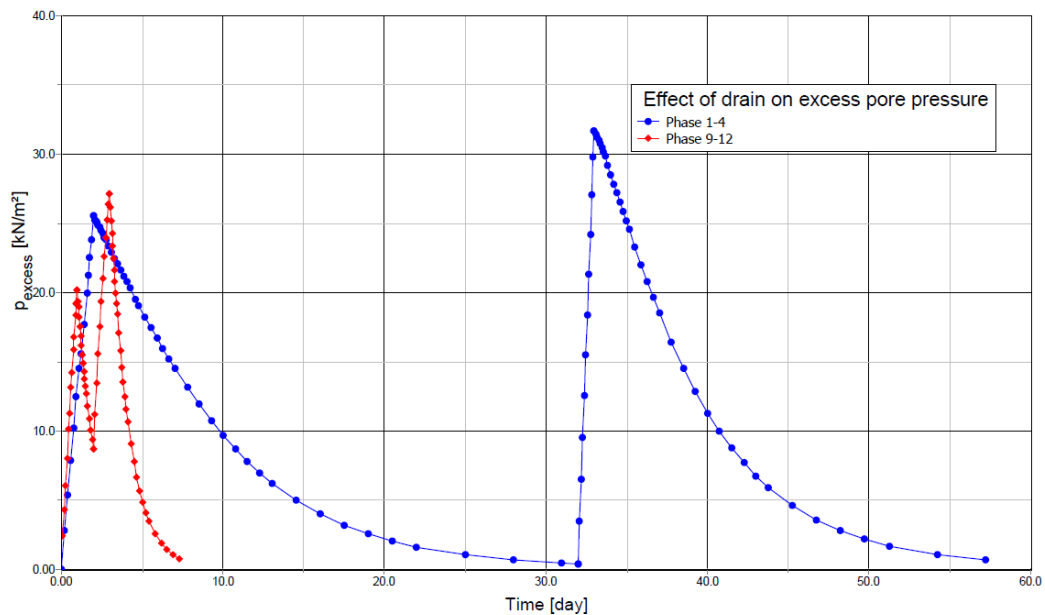

Figure 6-18: Effect of drains
- Click **OK** to close the **Settings** window. Figure 6-18 \(p. 131\) gives a clear view of the effect of drains in the time required for the excess pore pressures to dissipate.